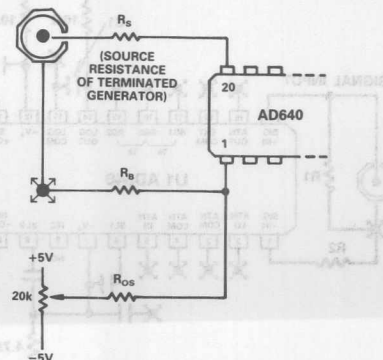

Figure 25. Optional Input Offset Voltage Nulling Circuit; See Text for Component Values
In most applications there will be no need to use any offset adjustment. However, a general offset trimming circuit is shown in Figure 25. R_S is the source resistance of the signal. Note: 50Ω rf sources may include a blocking capacitor and have no dc path to ground, or may be transformer coupled and have a near zero resistance to ground. Determine whether the source resistance is zero, 25Ω or 50Ω (with the generator terminated in 50Ω) to find the correct value of bias compensating resistor, R_B , which should optimally be equal to R_S , unless $R_S = 0$, in which case use $R_B = 5\Omega$. The value of R_{OS} should be set to $20,000R_B$ to provide a $\pm 250\mu\text{V}$ trim range. To null the offset, set the source voltage to zero and use a DVM to observe the logarithmic output voltage. Recall that the LOG OUT current of the AD640 exhibits an absolute value response to the input voltage, so the offset potentiometer is adjusted to the point where the logarithmic output "turns around" (reaches a local maximum or minimum).
R4 is identical to R2, and in shunt with R3 (270 Ω thin film) forms a 27 Ω resistor with the same TC as the output resistance of the attenuator. By connecting Pin 1 to ATN LOW (Pin 2) this resistance minimizes the offset caused by bias currents. The offset nulling scheme shown in Figure 25 may still be used, with the external resistor R_B omitted and $R_{OS} = 500k\Omega$. Offset stability is improved because the compensating voltage introduced at Pin 20 is now PTAT. Drifts of under 1 $\mu V/^\circ C$ (referred to Pins 1 and 20) can be maintained using the attenuator.
Cascaded AD640s can be used in dc applications, but input offset voltage will limit the dynamic range. The dc intercept is $6\mu\text{V}$. The offset should not be confused with the intercept, which is found by extrapolating the transfer function from its central "log linear" region. This can be understood by referring to Equation (1) and noting that an input offset is simply additive to the value of V_{IN} in the numerator of the logarithmic argument; it does not affect the denominator (or intercept) V_X . In dc coupled applications of wide dynamic range, special precautions must be taken to null the input offset and minimize drift due to input bias offset. It is recommended that the input attenuator be used, providing a practical input range of -74dBV ($\pm 200\mu\text{V}$ dc) to $+6\text{dBV}$ ($\pm 2\text{V}$ dc) when nulled using the adjustment circuit shown in Figure 25.